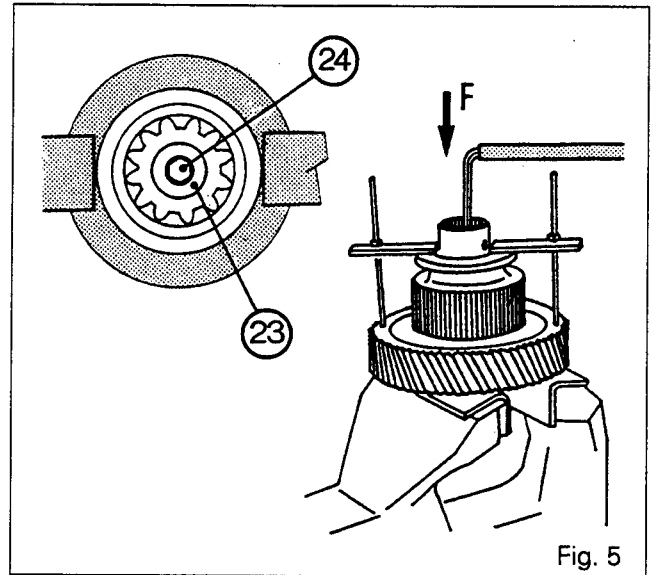
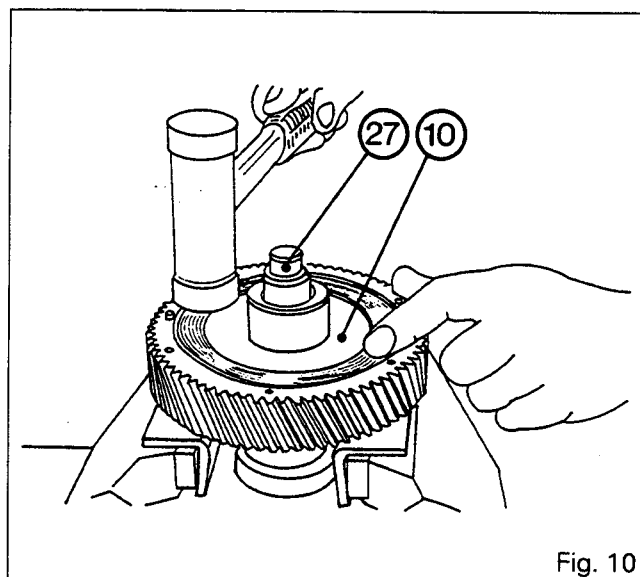

Fig. 5
Fig. 10
30. Hold the spring (18) with the aid of a locally made tool (Fig. 5). For tool see page 8.
31. Remove the screws (24) and take off the washer (23) (Fig. 5). Gradually decompress the spring with the tool.
32. Remove the hub (21), the spring seat (19), the spring (18), the retainer (13) and the Belleville washer (12).
33. Remove the securing ring (20).
34. Extract the ball bearing (22).
35. Take out the piston (10).
36. Remove the O-rings (11), (25) and (26).
- 44. Lubricate the sleeve (27) and the piston (10) and insert into the housing with a plastic mallet (Fig. 10).
- 45. Using a suitable device and a press, insert the ball bearing (22) into the hub (21). Fit the securing ring (20).
- 46. Refit the Belleville washer (12), the support (13), the spring (18), the spring seat (19) and the hub (21).
- 47. Compress the spring (18) with the tool (Fig. 5). Mount the washer (23) and tighten the screw (24) smeared with Loctite 242 to a torque of 24 - 28 Nm.
- 48. Place the spacers, the outer plates and the inner plates (according to the type) on the hub (21).
- 49. Position the clutch housing (15) on the two pins (30). Fit the bolts (16) lightly smeared with Loctite 542 and tighten them to a torque of 24 - 28 Nm.
- 51. Lubricate and fit the O-rings (3) and (6).